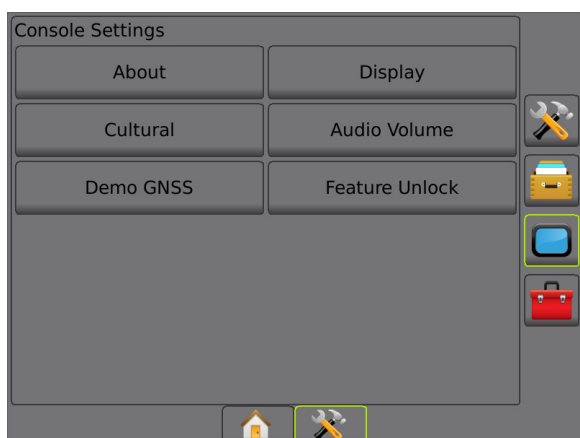

Figure 5 - Console settings screen
- Press the  button to display the console settings tab, Figure 5.